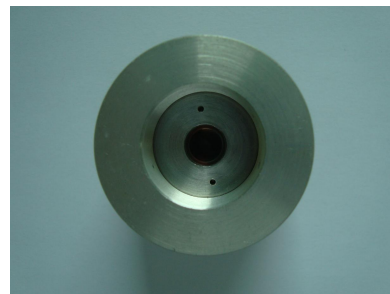

Figure 6: Focusing lens in coupler
1. Focusing optical component located on the thread at the center of fiber coupler. Please turn the focusing optical component in coupler. Do not touch optical lens please and no more than half-turn at a time.(Figure 6)